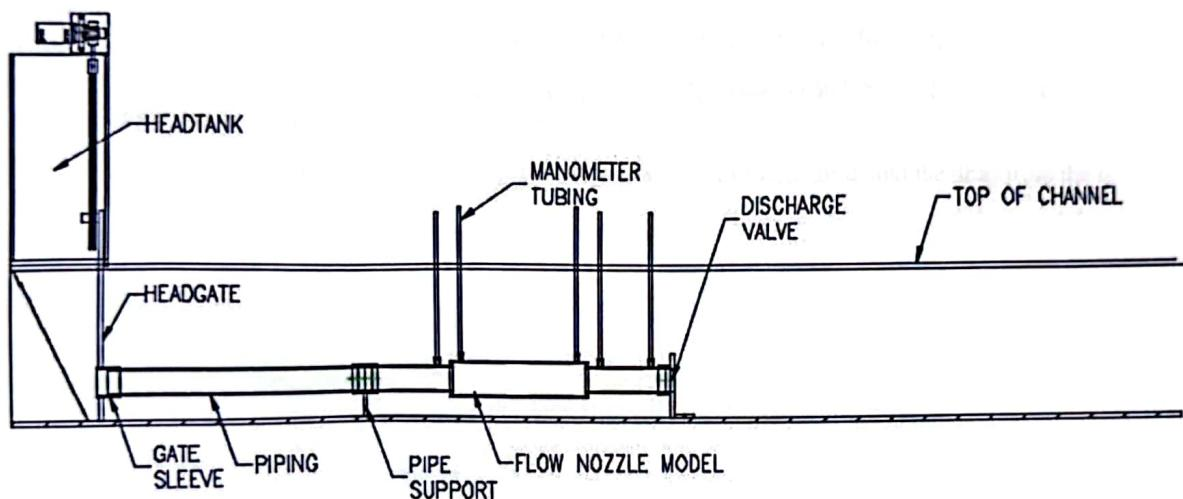
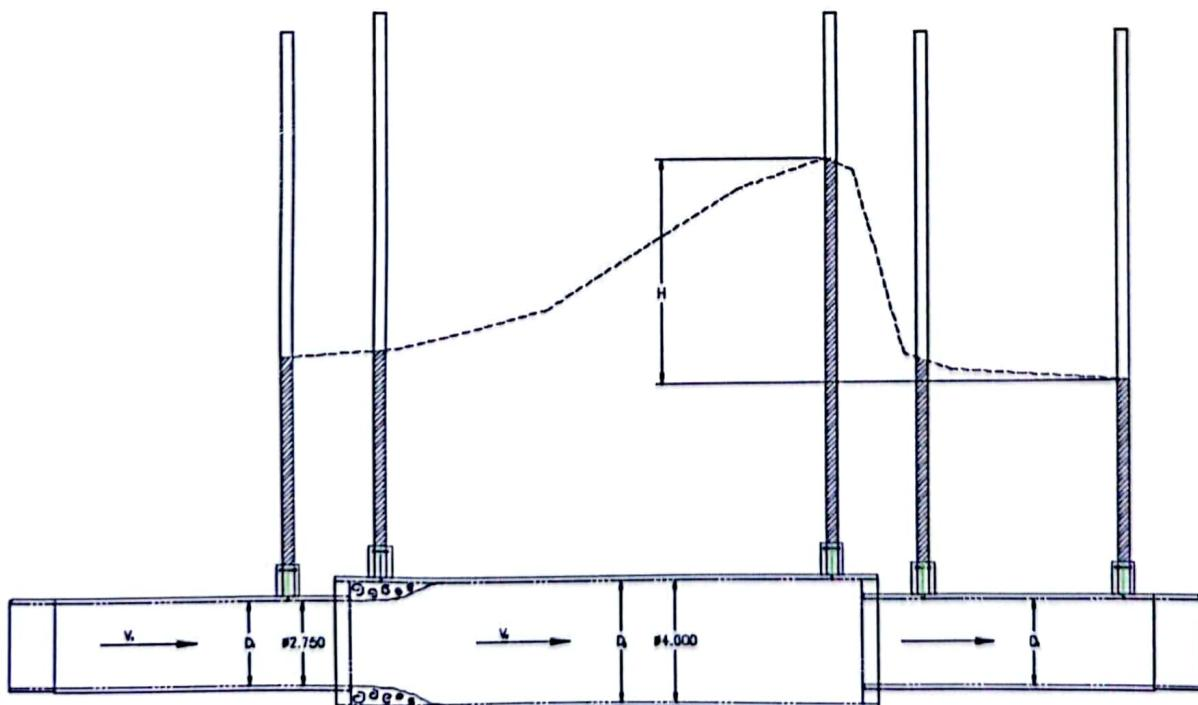

Figure 1: Sudden Expansion and Contraction Model Installation Diagram
Figure 2: Detail of Sudden Expansion and Contraction Model
1. Initial settings (Fig. 1):
2. Install pipe segment, pipe support, sudden expansion and contraction model and discharge valve into headgate sleeve and onto channel floor. Secure the discharge valve to the channel floor using two (2) #10-24UNC-2A x 0.625" long Round Head Machine Screws (RHMS). Engage all o-rings at pipe connections.
6. Note the rise in pressure from the first upstream manometer to the third, and the drop from the third to the fourth (Fig. 2).